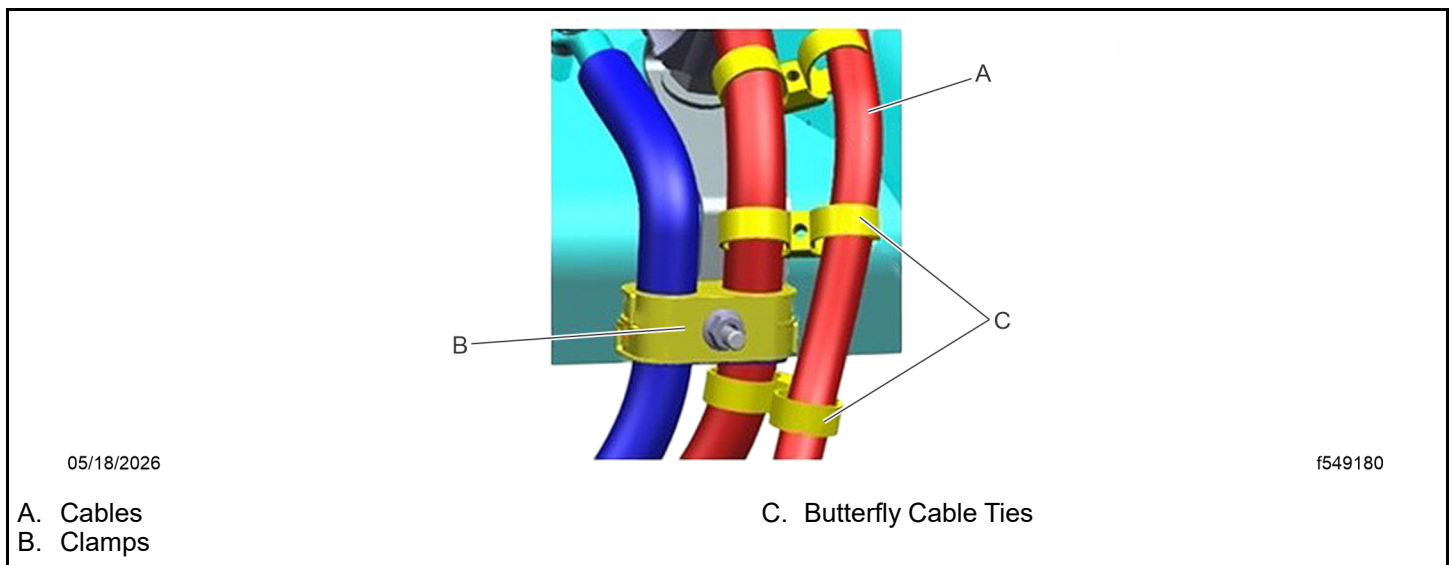

Fig 155, Butterfly Cable Ties Around the Cable Clamps
43. Install the upper and lower cable clamps on the isolator frame bracket. To prevent cables (A) from rubbing, secure any cables routed on the outside cable clamps (B) using butterfly cable ties (C) (TYCDCT110HIR). See Fig. **Fig. 155**.